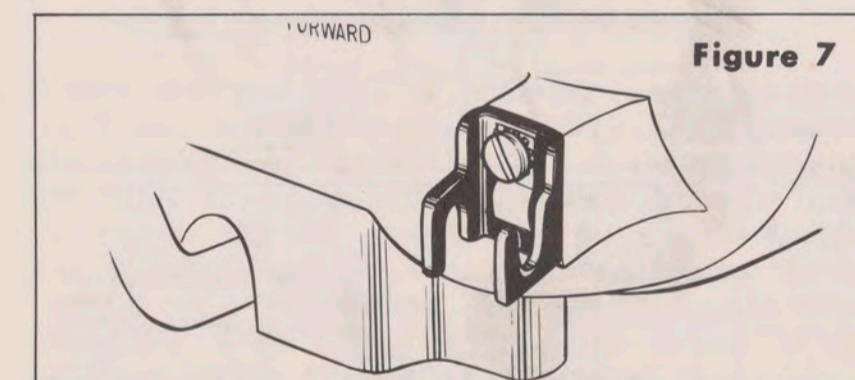

Figure 7
1. Attach BLACK bracket to starboard side of motor with screw, lockwasher and clip provided (see Figure 7). NOTE: On RDS Models, an additional bracket (enclosed in Tool Kit Bag) must be attached to motor, and BLACK bracket mounted on this bracket.